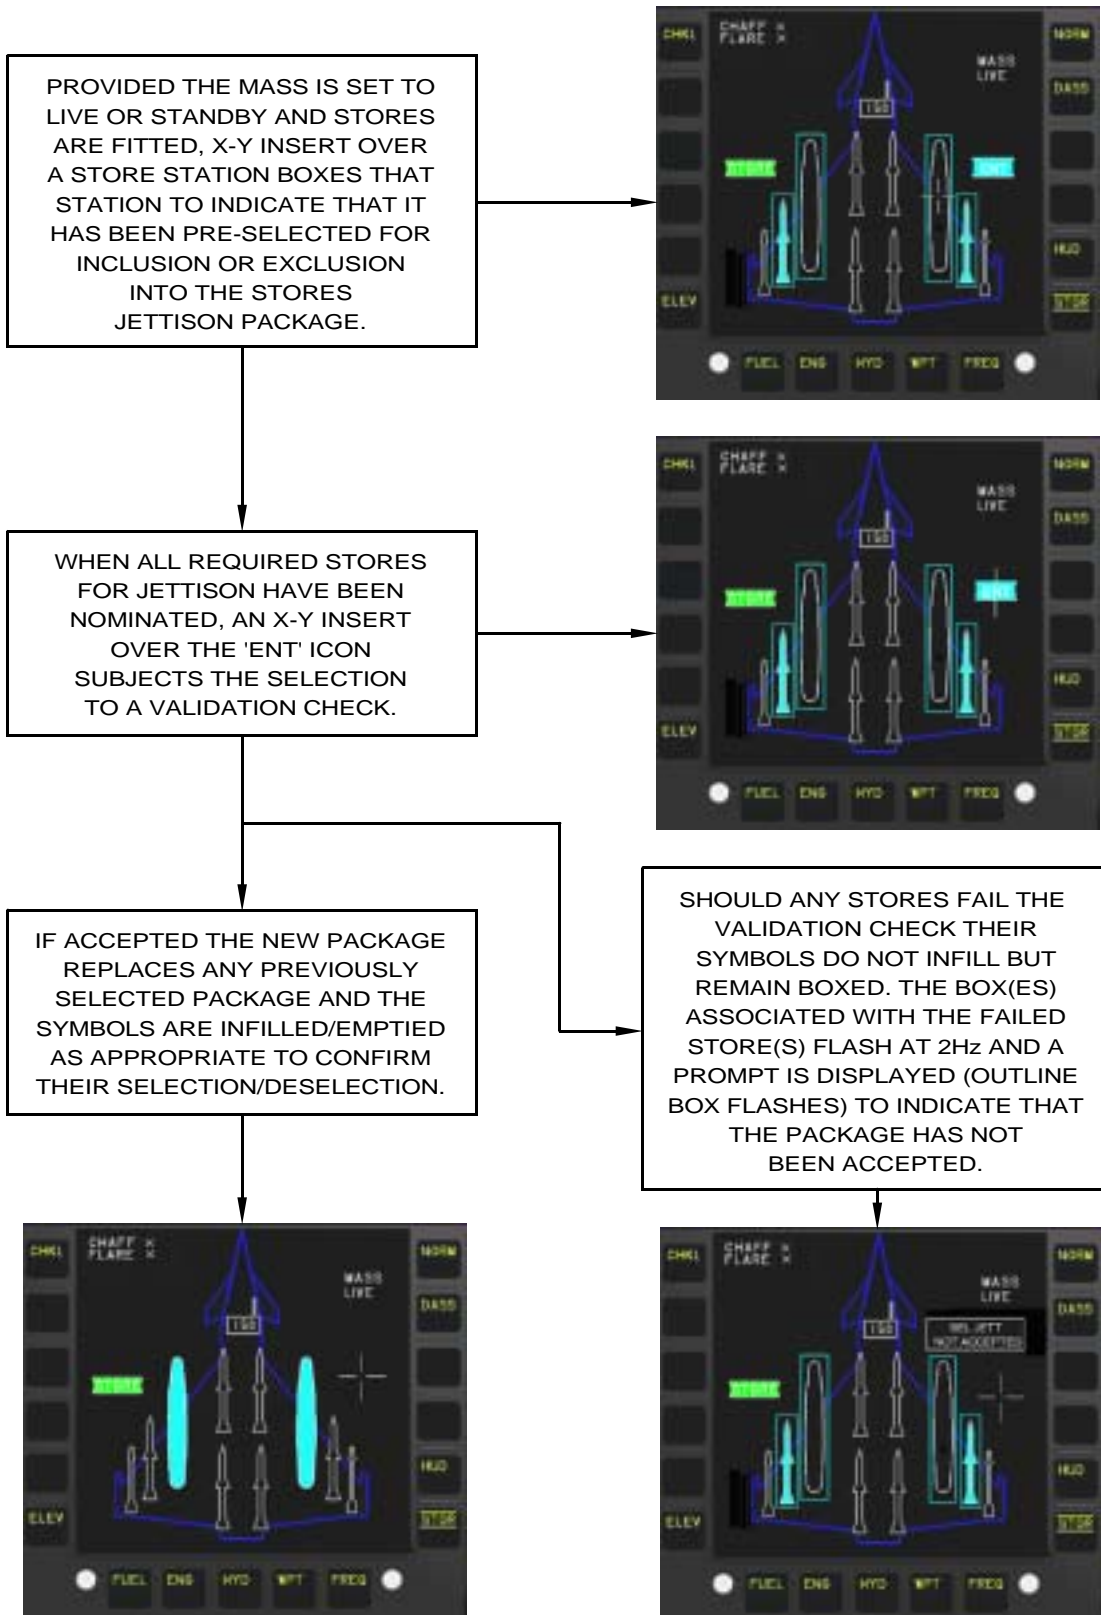

Figure 8.81 - Selective Jettison Package
A selective jettison package may be loaded via the PDS/MDLR, but if required the pilot is able to use the X-Y function to set-up a selective jettison (SJ) package on the MHDD/Stores format (Figure 8.81). X-Y insertion over a store station boxes that station to indicate that it has been pre-selected for inclusion or exclusion in the SJ package in accordance with the following criteria: